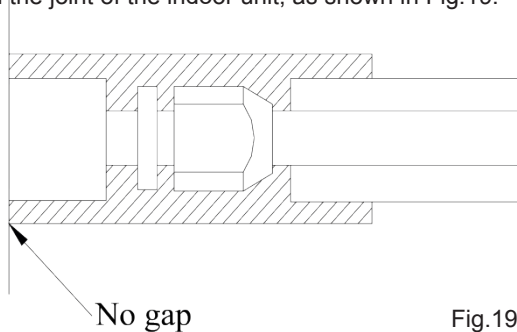

Fig.19
b. The joints of the indoor unit should be wrapped with the insulating material and no gap is allowed on the joint of the indoor unit, as shown in Fig.19.